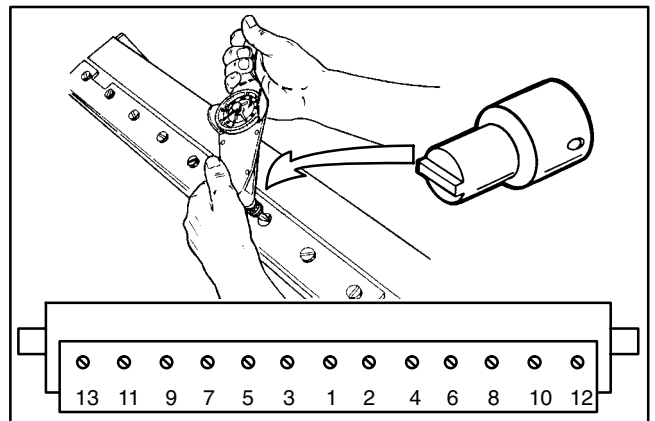

Figure 14
2. Using a torque wrench and bedknife screw tool, tighten screws to a torque of 200 to 250 in-lb (22 to 28 Nm). Use a torquing pattern working from the center toward each end of the bedknife (Fig. 14).